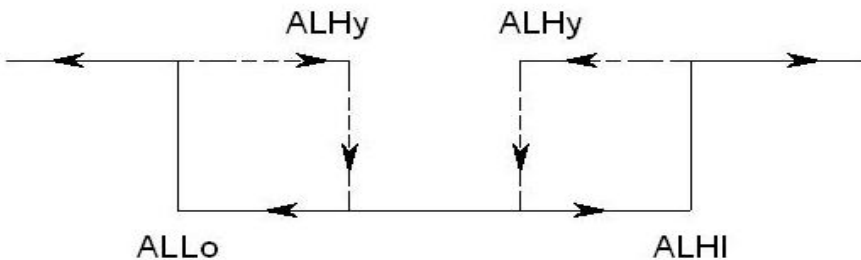

Fig. 4
- \* *The function of " Alarm Low limit value " setting, refer to page 12, Fig. 4.*
- \* The function of " Alarm Hysteresis value " setting, refer to following Fig. 4.